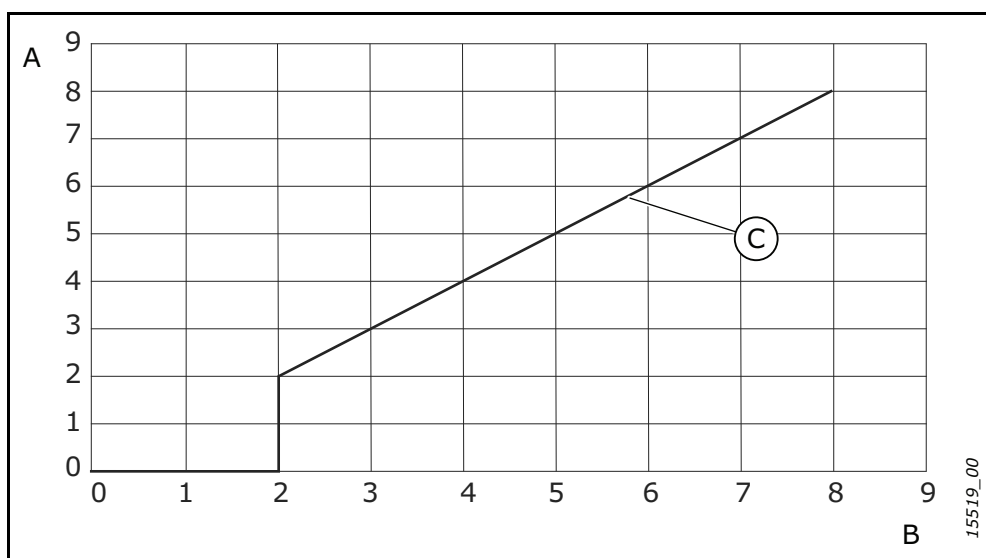

Figure 1. Storage Time and Reforming Time
4. Start to reform the capacitors. The time of reforming depends on the time of storage. See Figure 1.